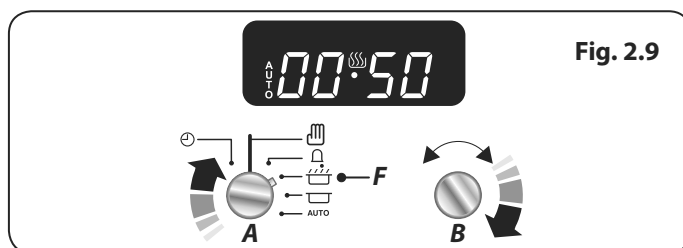

Fig. 2.9
1. Turn the **Timer (A)** knob to the **Cook Time (F)** setting. Turn the **Adjusting (B)** knob clockwise to set the length of the cooking time required (**Fig. 2.9**).